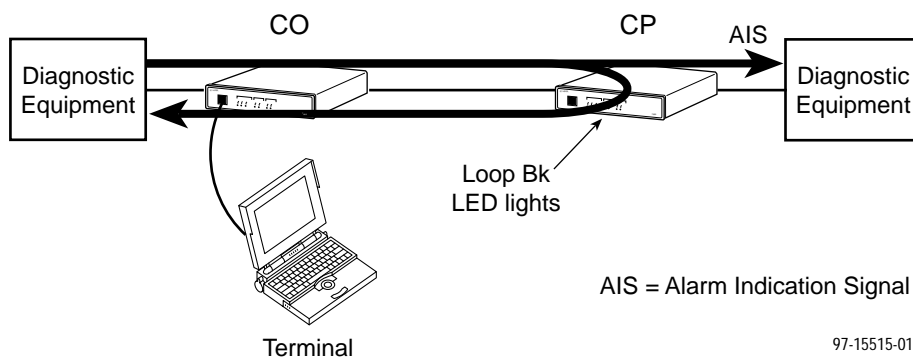

Figure 7-3. Remote Loopback, Initiated at the CO Unit
- The data flow is indicated by the bold thick arrows in Figures 7-3 and 7-4.